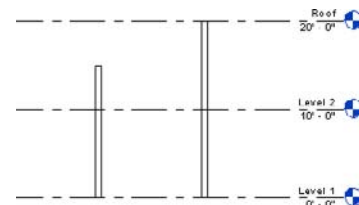

Figure 3.43
**Height** This option allows you to specify the wall's top constraint (level) or enter a fixed top constraint. There are two options for setting the height of a wall. You can specify a fixed unconnected height of a wall to a fixed distance. If any changes are made to the level heights, then walls set to an unconnected height would not be impacted by the level change. Or you can specify a level to constrain the top of the wall to. Figure 3.43 shows two walls. The wall on the left has the height set to an unconnected height of 15' 0". The wall on the right has the height constrained to the roof.